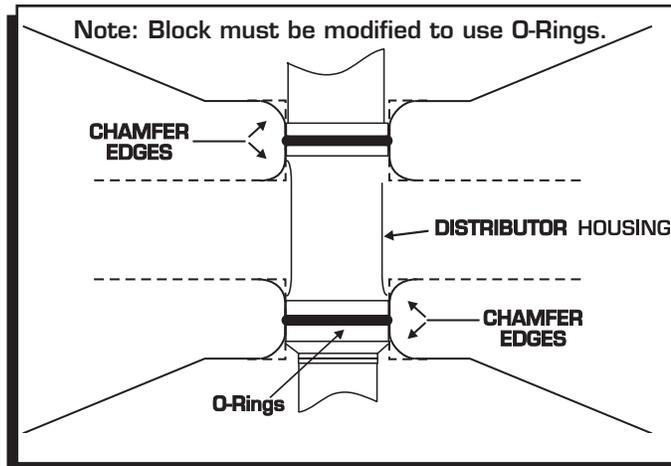

Figure 5 Chevy Blocks must be modified to accept O-rings.
7. **Chevrolet applications only:** Install the gasket and apply a liberal amount of the supplied lubricant to the distributor gear and O-rings. (The supplied O-rings can **only** be used if the block has been modified as shown in Figure 5.)